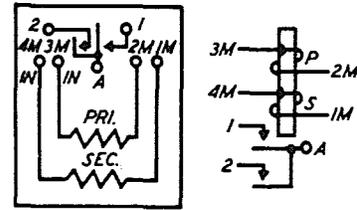

FIG. 3 - WINDING AND SPRING TERMINAL ARRANGEMENT AS VIEWED FROM THE REAR (TERMINAL SIDE) - B, C, G AND J TYPE RELAYS
2.13 Armatures are not designated from the front. As viewed from the rear of the relay, contact spring and winding terminals are located in three rows as shown in Fig. 3. The contact spring terminals are located in the top row and are numbered consecutively from right to left. The winding terminals are located in the middle row and are designated from right to left. The letter M following the number indicates the middle row of terminals.